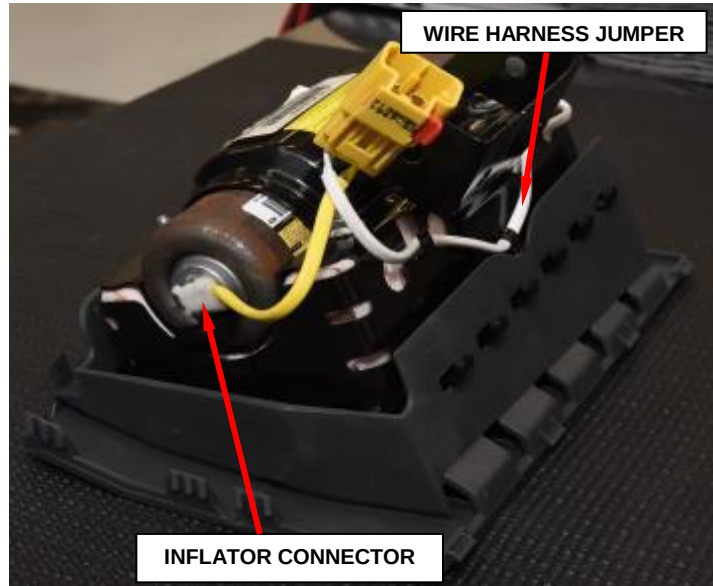

Figure 34 – Inflator Connector
- b. Disconnect the single yellow wire inflator connector from the end of the inflator using pliers (Figure 34).
- p. Connect the single yellow wire inflator connector to the end of the inflator after removing the protective tape from the end of the inflator (Figure 34).